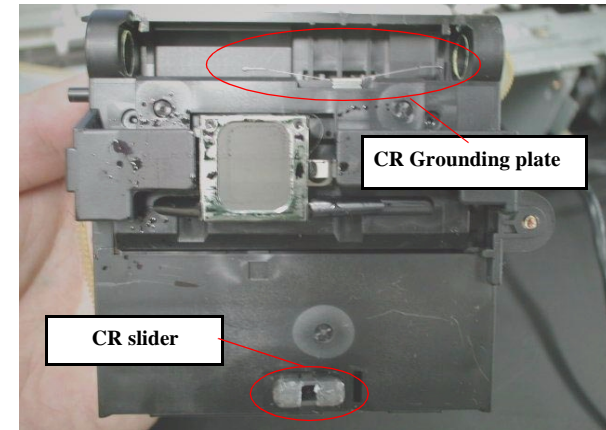

Figure 4-53. Grounding plate assembling position
- If you disassemble the CR unit after removing the CR unit from the printer, make sure that the CR Grounding plate is assembled in the suitable position in the CR unit. Refer to Figure 4-53.